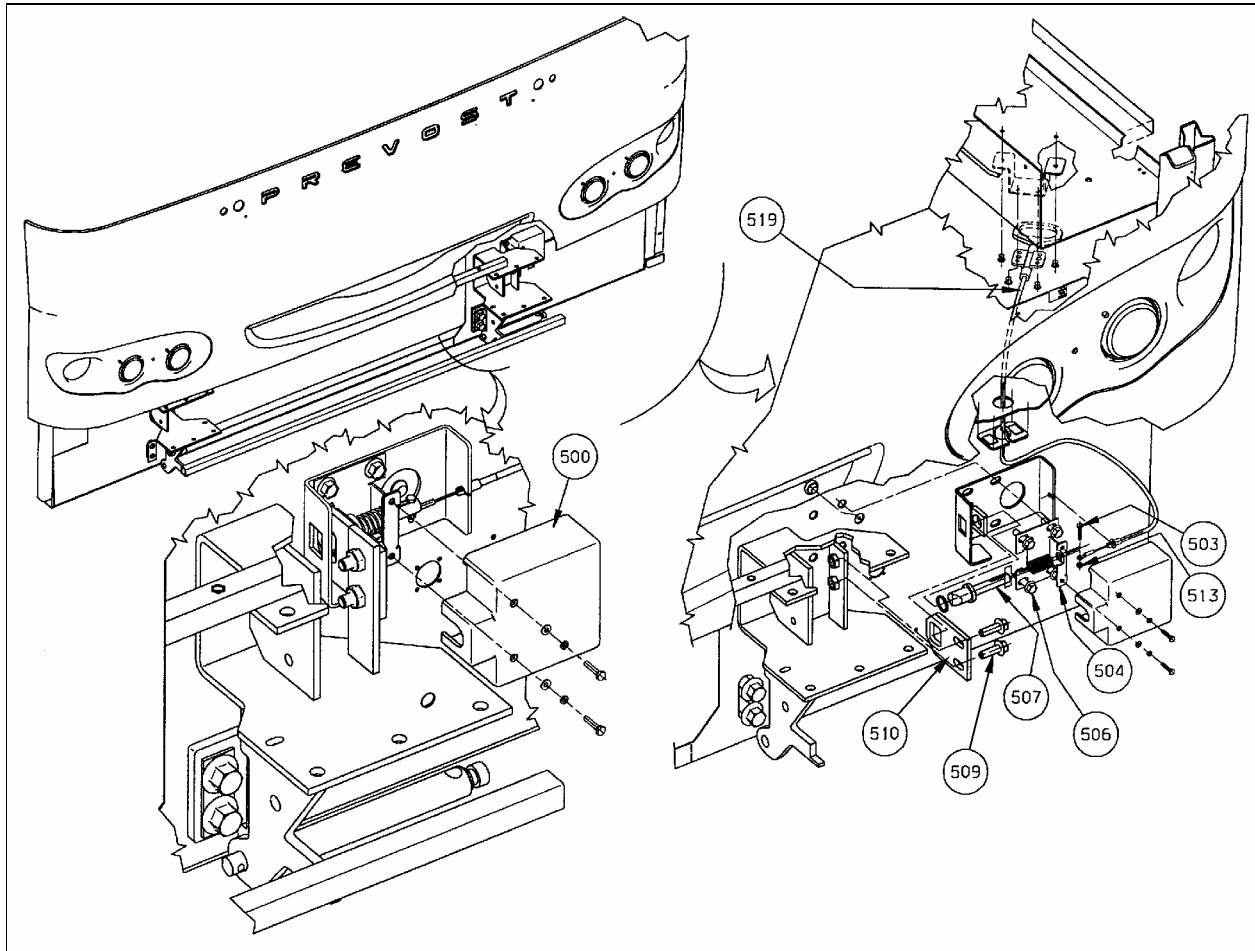

FIGURE 2
6. Once springs have been replaced, remove lowering mechanism protective cover (500).
- Unfasten screw (503) and nut (513) to separate release cable (519) from latch-bolt (507) (refer to figure 2).